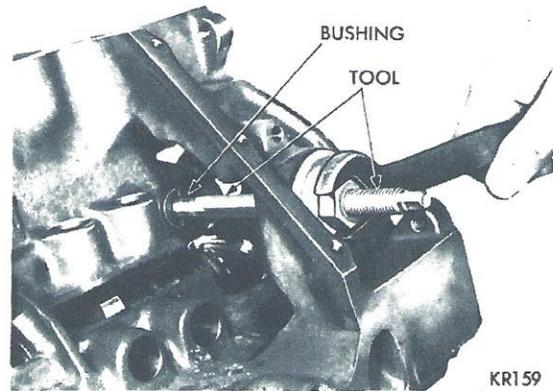

Fig. 31—Removing Distributor Drive Shaft Bushing
- (1) Insert Tool C-3052 into the old bushing and thread down until a tight fit is obtained (Fig. 31).
- (2) Hold remover screw and tighten nut until bushing is removed.